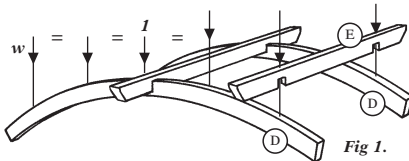

Fig 1.
2. Mark off five points along the length of each of the curved beams where the rafters will be fitted (see Fig.1). It is recommended that the centre is marked first (1) and the other points measured from it.